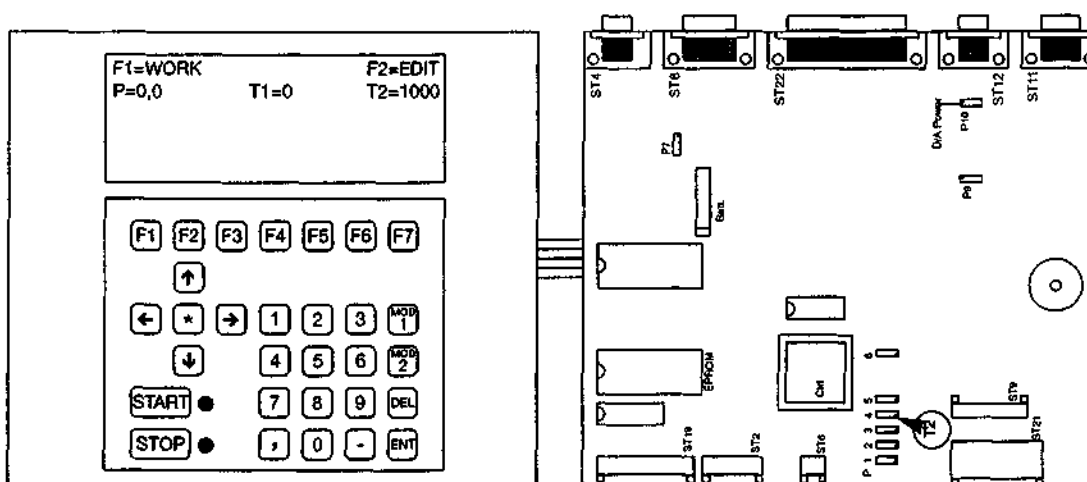

Figure 1: M240 open view
2. Remove the M240 top panel (the one with the display) and lay it beside the base panel (which contains the CPU) without removing the connections between the two parts. (See Figure 1).
5. By means of a screwdriver, regulate the 10 Kohm potentiometer (T2) on the CPU board (see Figure 1). Adjust the potentiometer (T2) until the remote control display value T2 corresponds to the front frame LED Display of the MLS-1200 Pyro.